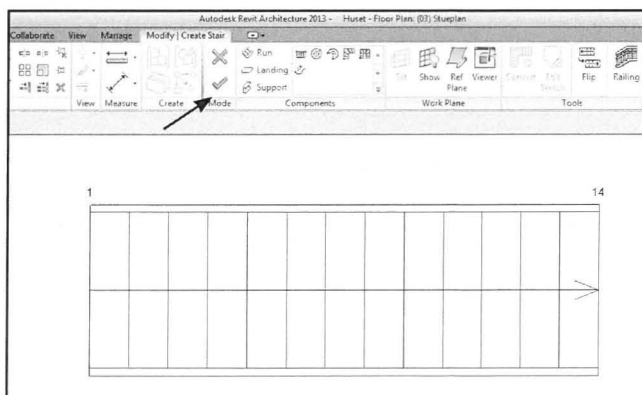

Fig. 10.09. *Type Properties* for trappen.
- Klik nu *Finish Edit Mode* (Fig. 10.09).